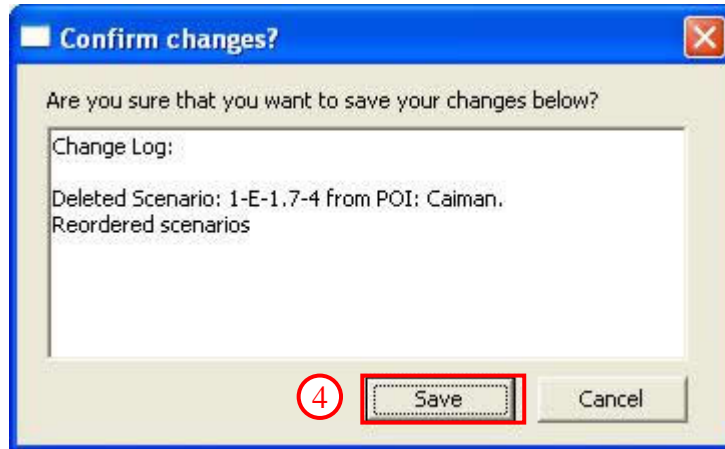

Figure 78. Scenario Management - Confirm Deletion
4. A prompt is displayed detailing the addition/changes (Figure 78). Click the [SAVE] button to confirm the changes.